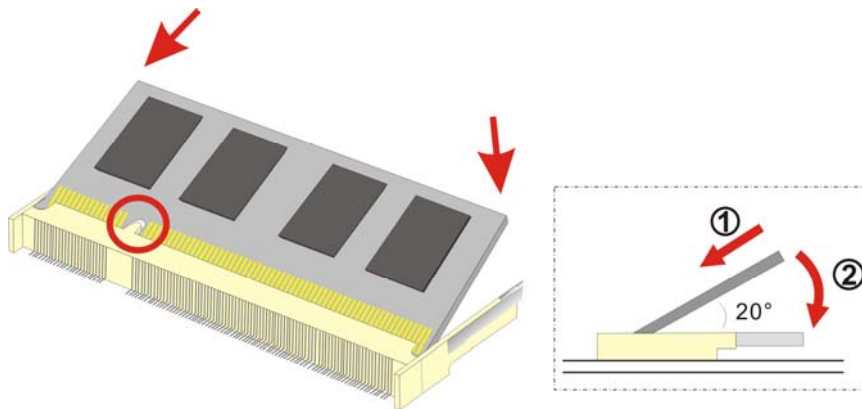

Figure 5-5: DDR SO-DIMM Module Installation
- Step 6:** Install the new DDR memory module by pushing it into the socket at an angle (Figure 5-5).
- Step 7:** Gently pull the spring retainer clips of the SO-DIMM socket out and push the rear of the DDR memory module down (Figure 5-5).